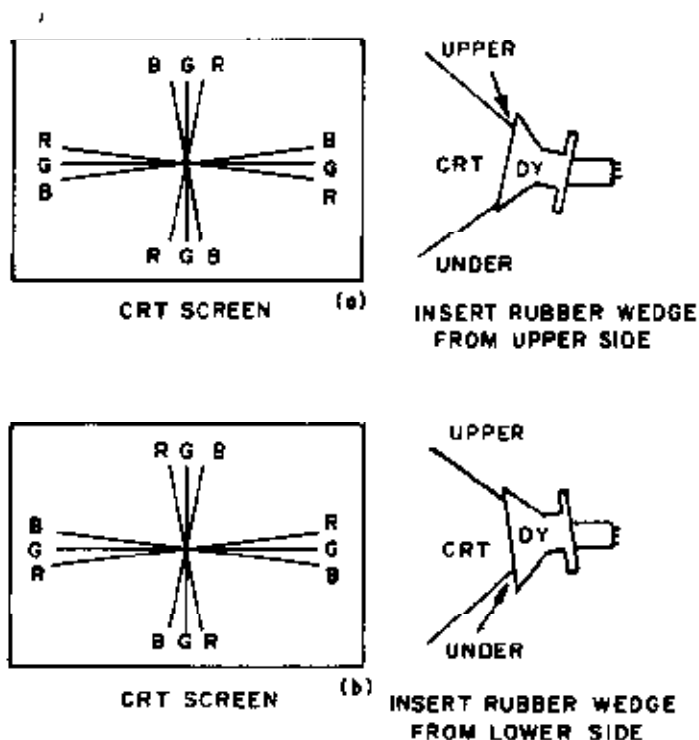

Figure 8 Adjustment of Red and Blue Beams During Dynamic Convergence
- 4.3 Tilt the angle of the yoke up and down to adjust the crossover of both vertical and horizontal red and blue lines. See Figure 8 (a) and (b).